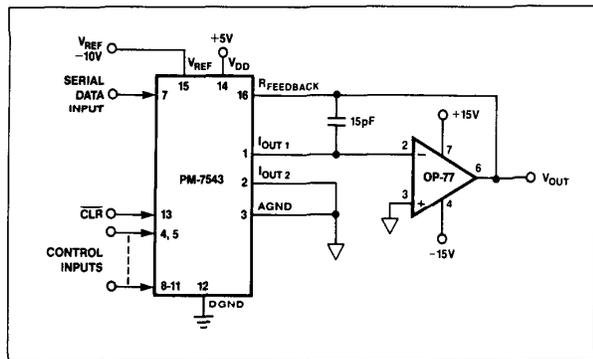

FIGURE 7: Unipolar Operation with High Accuracy Op Amp (2-Quadrant)
1. Phase compensation (see Figures 7 and 8).
In most applications, linearity depends upon the potential of I_{OUT1} , I_{OUT2} , and AGND (pins 1, 2, and 3) being exactly equal to each other. In most applications, the DAC is connected to an external op amp with its noninverting input tied to ground (see Figures 7 and 8). The amplifier selected should have a low input bias current and low drift over temperature. The amplifier's input offset voltage should be nulled to less than $\pm 200\mu V$ (less than 10% of 1 LSB).
The circuit shown in Figures 7 and 8 may be used with an AC or DC reference voltage. The circuit's output will range between 0V and approximately $-V_{REF} (4095/4096)$ depending upon the digital input code. The relationship between the digital input and the analog output is shown in Table 2. The V_{REF} voltage range is the maximum input voltage range of the op amp or $\pm 25V$, whichever is lowest.
- Nominal full scale for the circuits of Figures 7 and 8 is given by $FS = -V_{REF} \left(\frac{4095}{4096} \right)$.
- Nominal LSB magnitude for the circuits of Figures 7 and 8 is given by $LSB = V_{REF} \left(\frac{1}{4096} \right)$ or $V_{REF} (2^{-n})$.
The transfer function for the PM-7543 connected in the multiplying mode as shown in Figures 7 and 8 is: